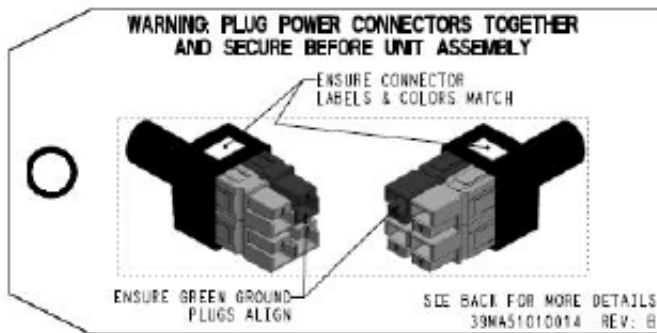
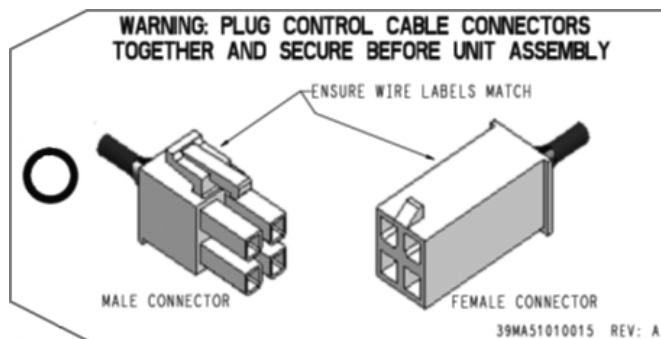

Fig. 27 — Power Plug Connectors Split Tag
Fig. 28 — Control Plug Connectors Split Tag
6. Verify that the labels on the power plug connectors (Fig. 27) and, if used, the labels on the control plug connectors (Fig. 28) on both sections match.